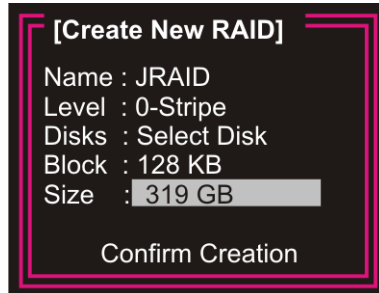

Figure D-8: Set the RAID volume size
Step 6: The **Size** item is then highlighted (**Figure D-8**). Enter the RAID volume size. The default value is the maximum volume size allowed.